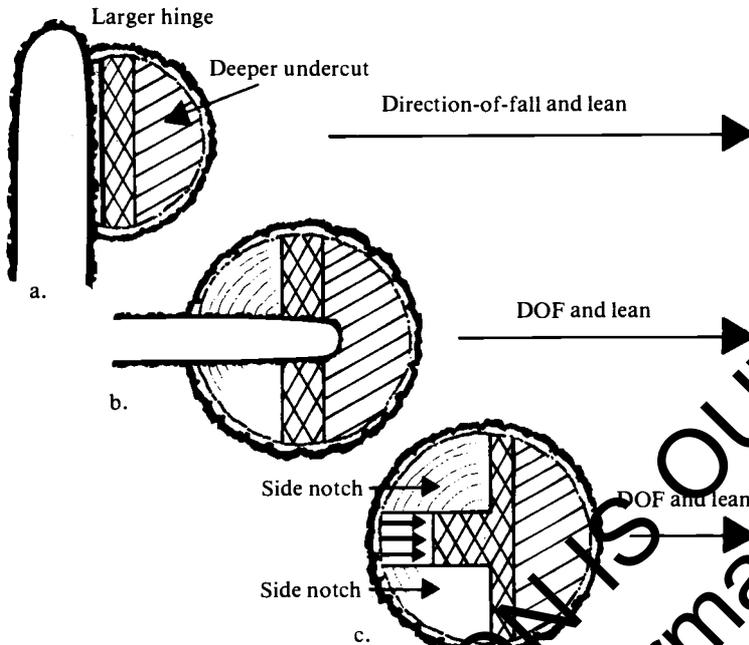

Figure 12.—Felling with the lean using a chain. (a) a standard back cut, (b) a back cut with the center bored out, and (c) a side-notched back cut.
**Felling with the lean.** You can fell trees most easily in the direction they lean. Start with a standard undercut—up to one-third the diameter of the stem. Take care to match the cuts. You can use three types of back cuts (see figure 12):